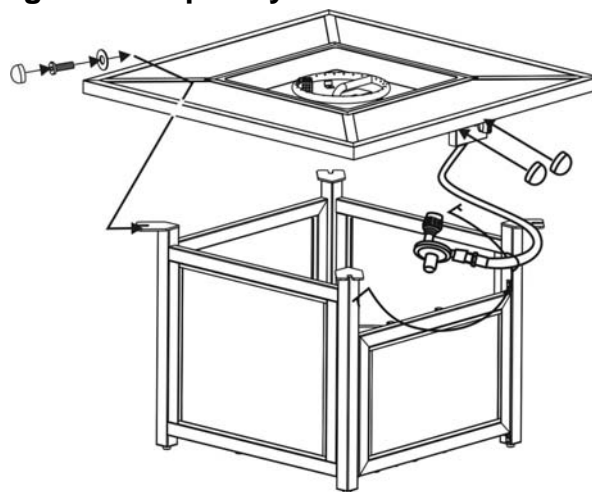

Figure 6
6. With the help of another person, carefully place the firepit table top onto the firepit base. After making any necessary adjustments to the alignment of the table top and the assembled base, use four 1/4"x20 mm bolts and $\text{Ø}20 \times \text{Ø}6.5 \times 2.0$ mm washers as shown in Figure 6. Guide the bolts through the holes in the base brackets, into the pre drilled holes in the table top. **Do not tighten completely.**